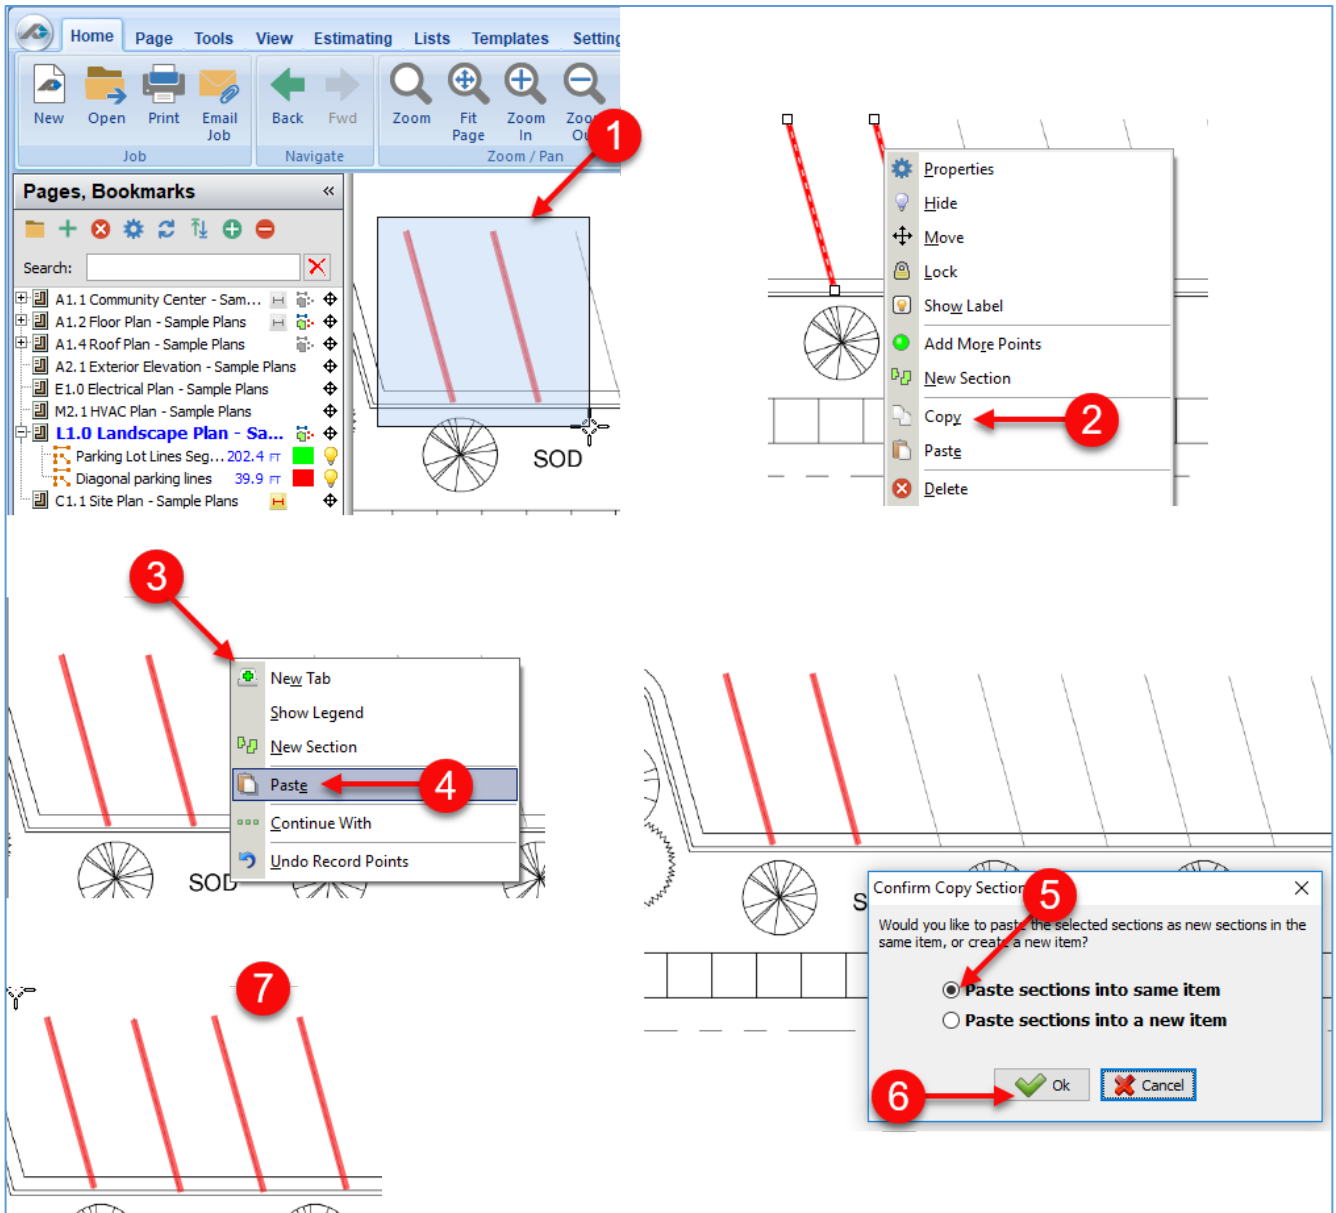

Figure 16-A
1. Select the item or items you want to copy by either clicking on them while holding the **Shift** or **Ctrl** key or by dragging a box over the items (Fig. 16-A).